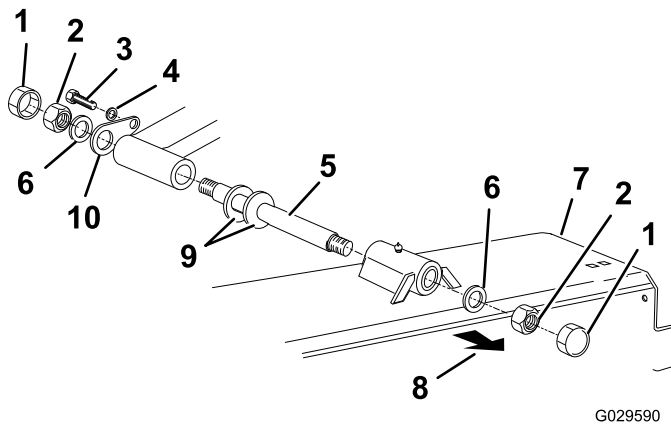

Figure 12
11. Secure each cutting unit to the mower in the correct position using the pivot pin, 2 locknuts (M24), 2 washers (M24), 2 nut caps, a pin retainer, 2 Belleville washers (where applicable), a setscrew (M12 x 30 mm), and a spring washer (Figure 12).